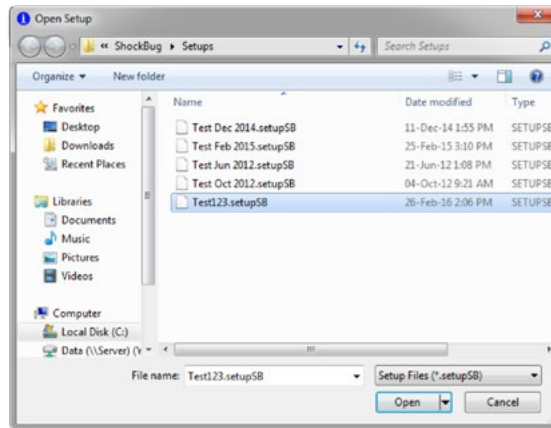

Figure 13
5. Select the required Setup file name, and click Open and the Setup file will be programmed into the iButton (Figure 13).